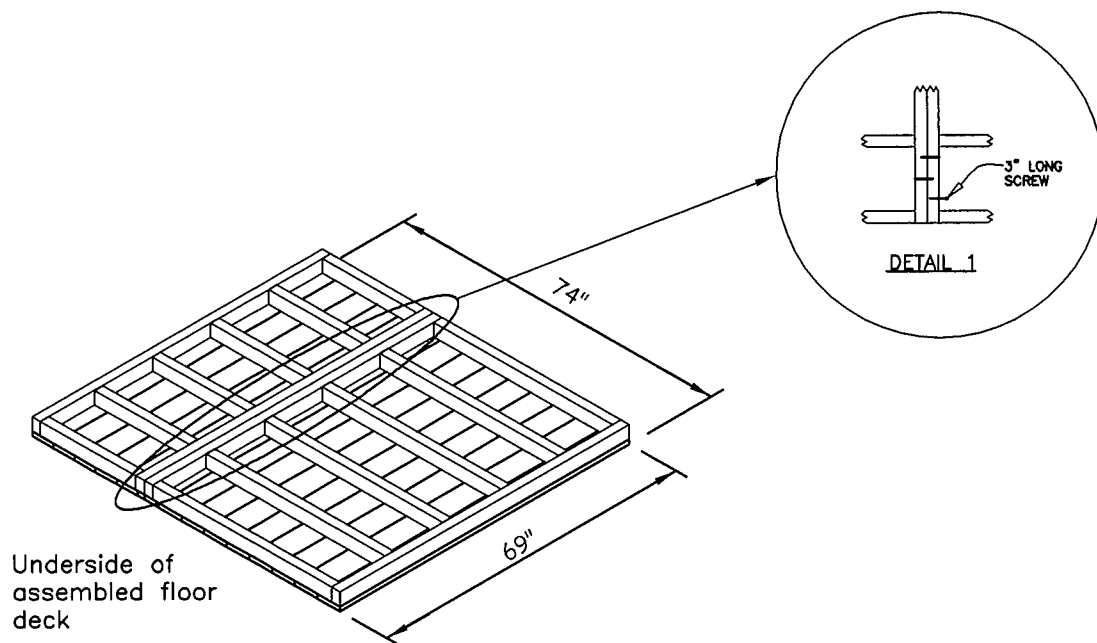

FIGURE S3
3. Using 10 - 3" long screws, fasten the floor sections together along the length of each section. Alternate the screws as indicated in Figure S3. (See Details 1). This will strengthen the floor assembly.